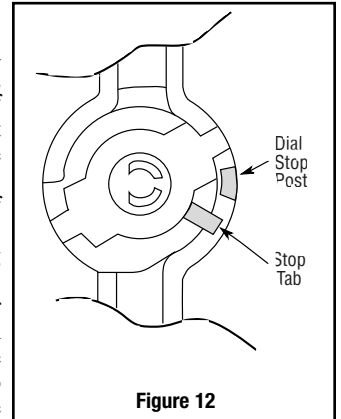

Figure 12
- A. Be sure that thermostat shaft is fully counter-clockwise (see Figure 12). With thermostat knob held in the indicated OFF position, carefully replace enclosure cover while feeling for proper engagement of shaft coupling.